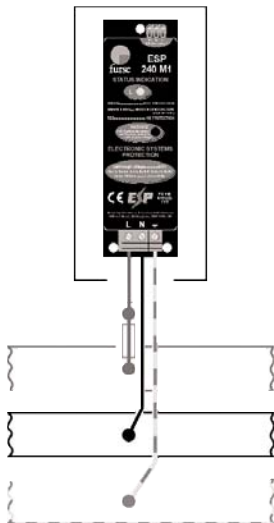

Figure 10 - Busbar mounted 63 or 100 amp HRC fuse at the end of the live connecting lead.
- installing 63 or 100 amp high rupture capacity (HRC) fuses or switchfuses in the connecting leads at the supply end of the lead (See Figure 10), or